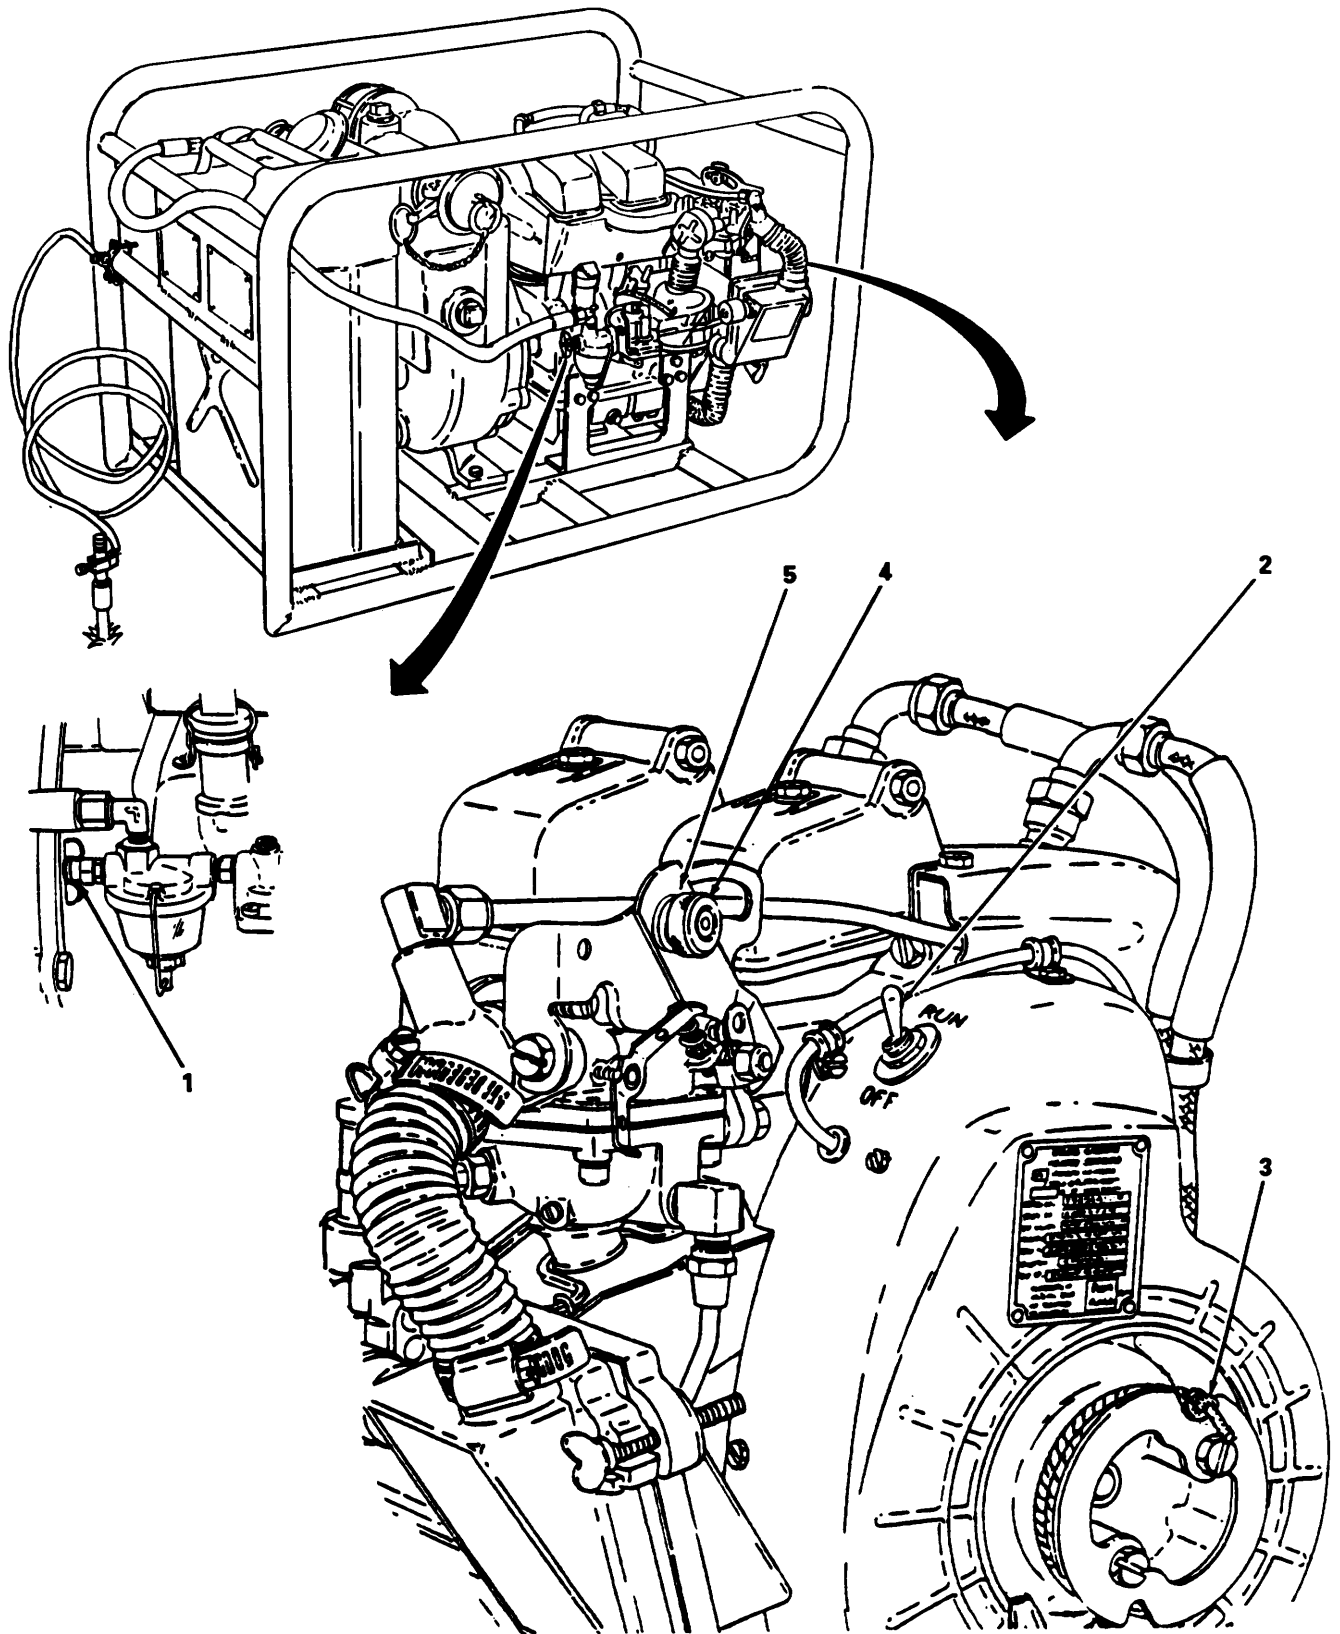

Figure 2-4 Starting three gasoline Engine
- c. Start the gasoline engine (refer to figure 2-4).
- (1) Open fuel control valve (1).
- (2) Place ignition switch (2) in RUN position.
- (3) Choke cold engine.